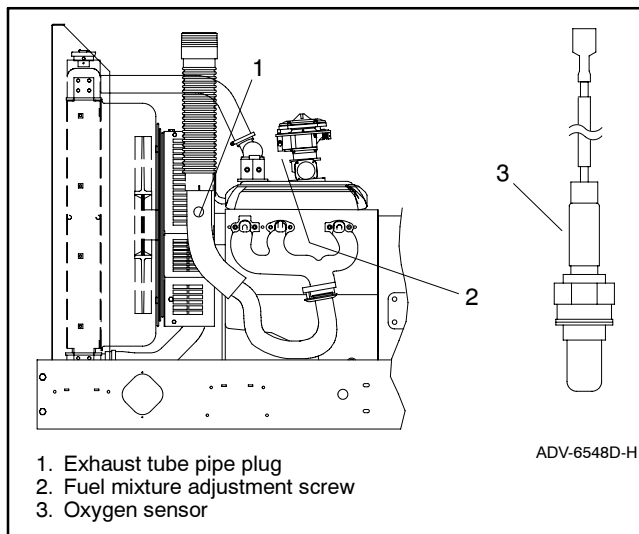

Figure 7-25 Oxygen Sensor Mounting Location, Typical (30 kW model shown)
- a. Remove the oxygen sensor pipe plug from the exhaust pipe. See Figure 7-25 for location.